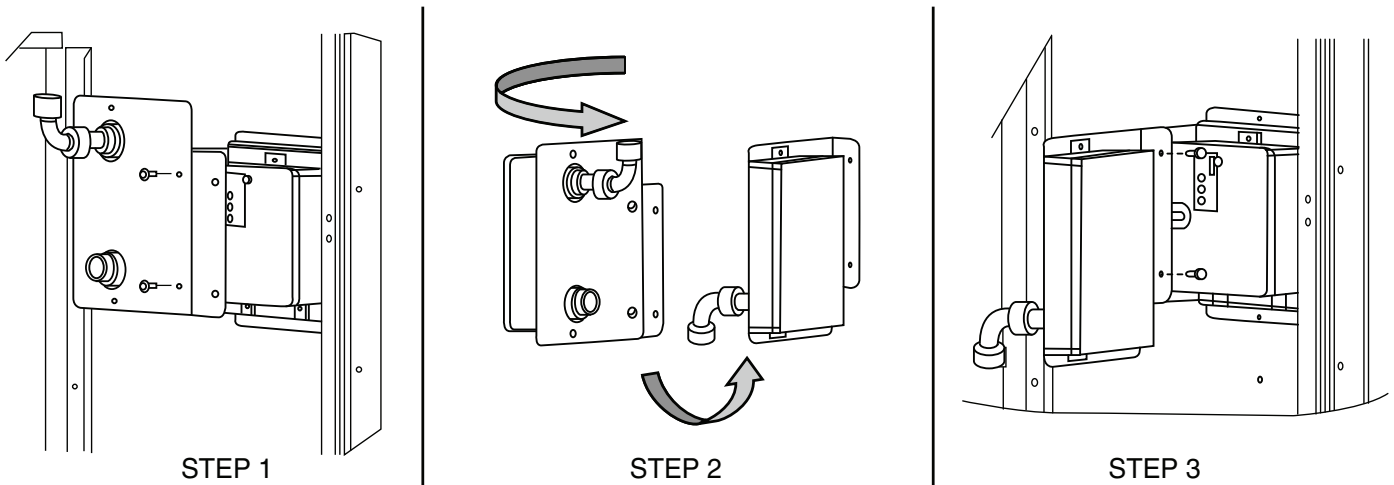

Fig. 50 — Completing Installation of Return Air Smoke Sensor
1. Unscrew the two screws holding the Return Air Smoke Detector assembly. See Fig. 50, Step 1. Save the screws.
2. Turn the assembly 90 degrees and then rotate end to end. Make sure that the elbow fitting is pointing down. See Fig. 50, Step 2.
3. Screw the sensor and detector plate into its operating position using screws from Step 1. See Fig. 50, Step 3.